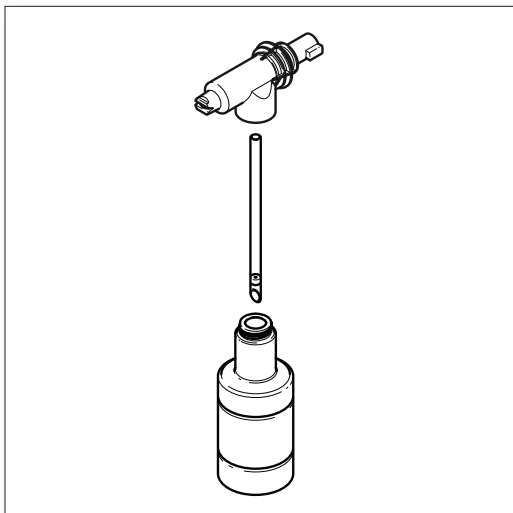
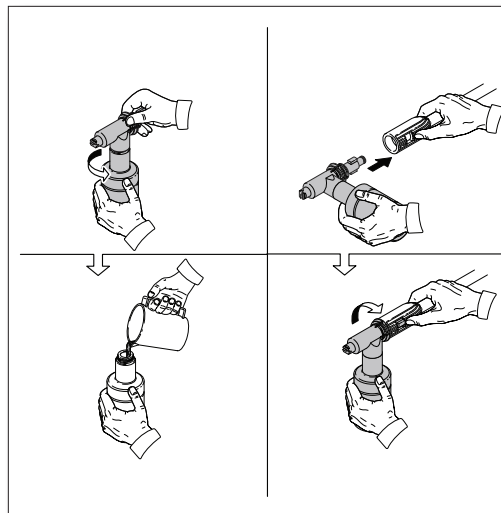

Fig. 11
Fig. 12
- When using the detergent bottle, fill it with a properly formulated detergent or cleaner with a water ratio according to instructions on the container (Fig. 11). The detergent bottles comes with a straw which is fitted into the screw-on top. If you do not see the straw, look inside the bottle and attach it to the screw-on top. (Fig. 12)